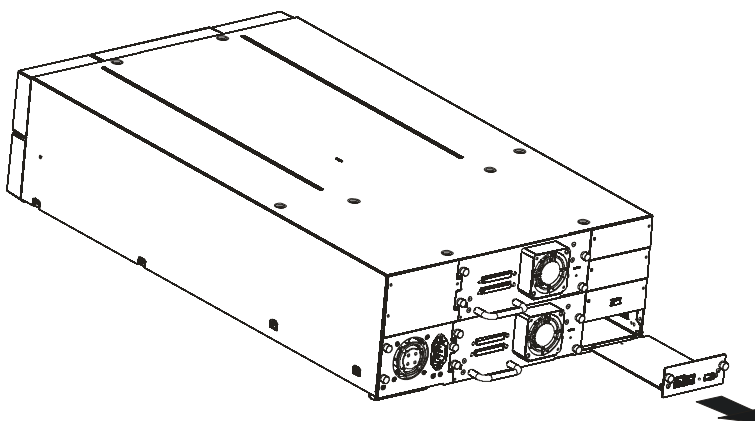

Figure 63 Library controller removal
4. Pull straight back on the Library controller to remove it from the Library (see Figure 63).